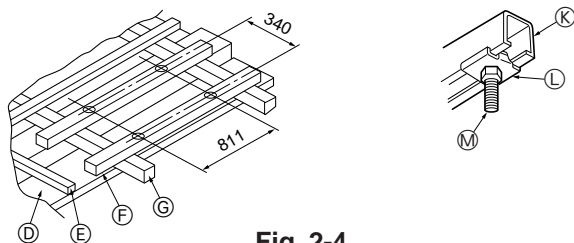

Fig. 2-4
### ① Wooden structures (Fig. 2-4)